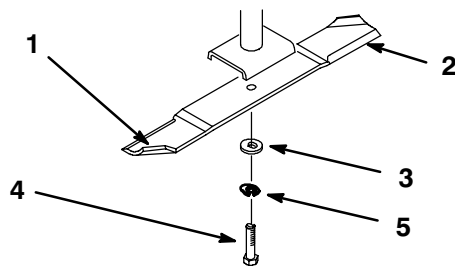

Figure 35
Hold the blade end using a rag or thickly-padded glove. Remove the blade bolt, flat washer, split lock washer, and blade from the spindle shaft (Fig. 35).
blade is not balanced, file some metal off the end of the sail area only (Fig. 35). Repeat this procedure until the blade is balanced.
1. Install the blade onto the spindle shaft (Fig. 35).
2. Install the flat washer, lock washer and blade bolt (Fig. 35). Torque the blade bolt to 85-110 ft.-lb. (115-150 N•m).